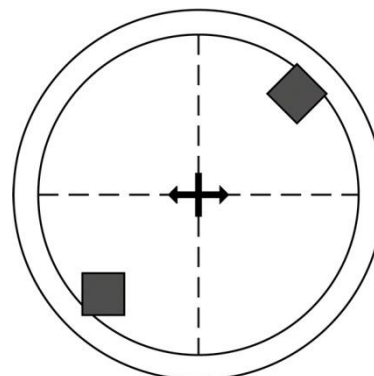
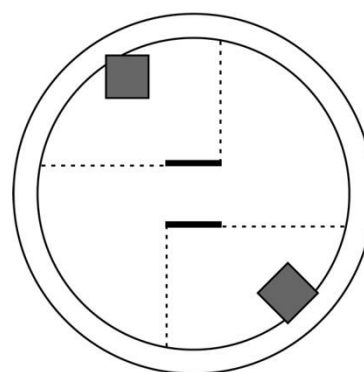

Figure 1 Starting cross
Figure.1.2 Sumo field with Shikiri-Sen starting lines
The starting cross is placed in the middle of the Sumo field and it divides the field into four equal sectors. The robots must be always located in two reciprocal sectors (see Figure 1). The robot must cover the area of Tawara (white line) at least partially. The referee removes the starting line from the field once the robots have been fixed. Once the robot has been fixed, it cannot be moved anymore.
If the Sumo field is designed with Shikiri-Sen (starting lines) instead of starting cross, the same principles of robot orientation applies, in accordance with Figure 1.2. Any part of participant's robot shall not go over the sector limited by the closest Shikiri-Sen (starting line). The robot must cover the area of Tawara (white line) at least partially. The organizers of each particular competition announce in advance which version of Sumo ring is used.
2. Before each round and according to the signal of the referee, the contestants place their robots simultaneously on the Dohyo. The robots must be placed in reciprocal sectors and at least some part of the robot must stay on the white line (see Figure 1 Starting cross and Figure 1.2 Sumo field with Shikiri-Sen starting lines). The robots are not allowed to move after they have been placed on the Dohyo.